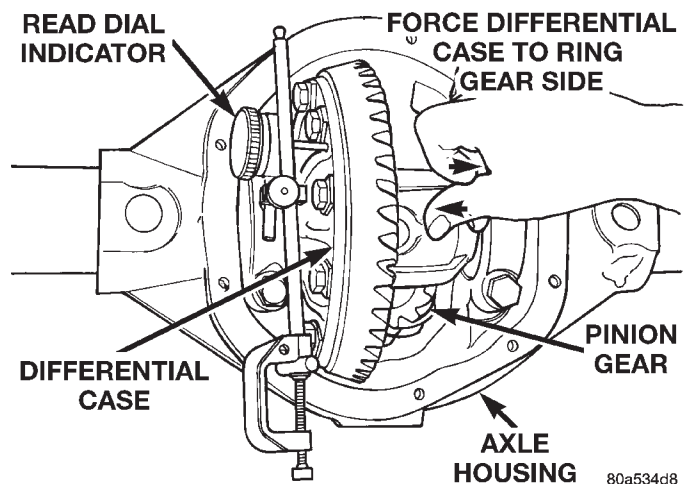

Fig. 68 Hold Differential Case and Read Dial Indicator
(23) Push and hold differential case to ring gear side of the axle housing (Fig. 68).
(24) Record dial indicator reading (Fig. 68).
(25) Subtract 0.003 in. (0.076 mm) from the dial indicator reading to compensate for backlash between ring and pinion gears. This total is the thickness shim required to achieve proper backlash.